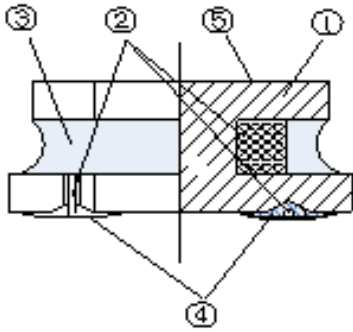

Fig. 6-1
1) The structure of ASWPA4035 product, please refer to Fig.6-1 and Table 6-1.